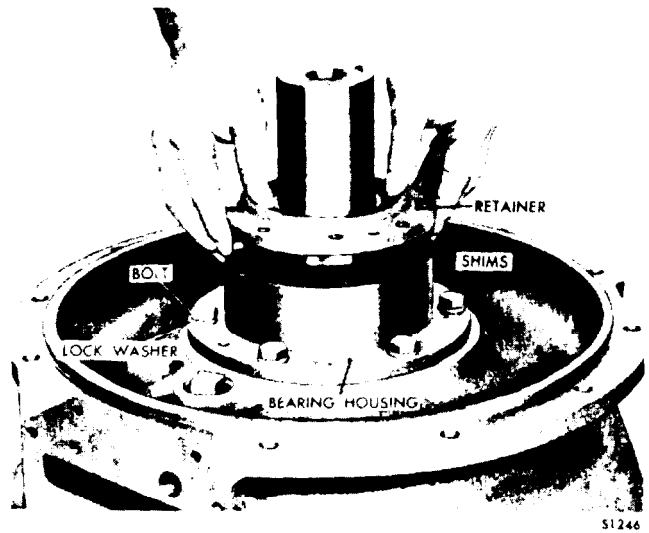

Figure 4C-17. Removing (or Installing) Bearing Retainer and Shims
6. Ordinarily, converter ground sleeve (18) is not removed. If it needs to be replaced, position the converter housing in a press, front side up, and press the ground sleeve out of the housing (see Figure 4C-23 on page 4C-21). Remove the ground sleeve key and dowel pin from the ground sleeve.